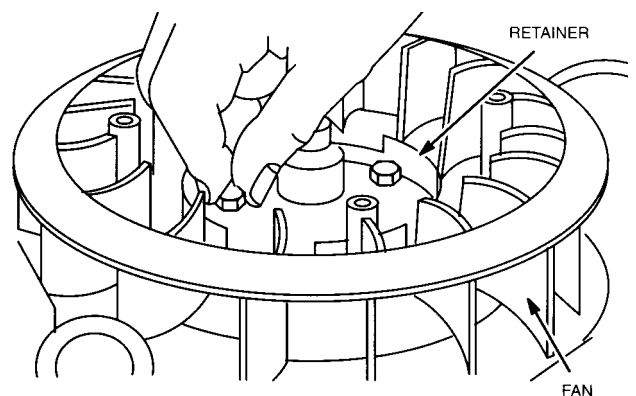

Fig. 12 - Install Fan And Retainer
3. Assemble fan and retainer to flywheel, Fig. 12.